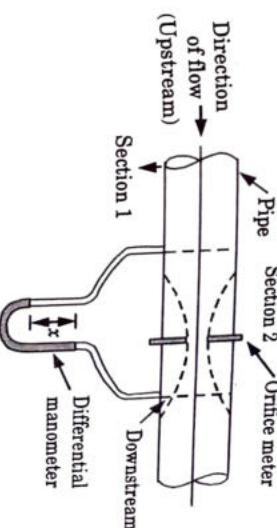

Fig. 3.14.1. Orifice meter.
- As shown in Fig. 3.14.1, let,